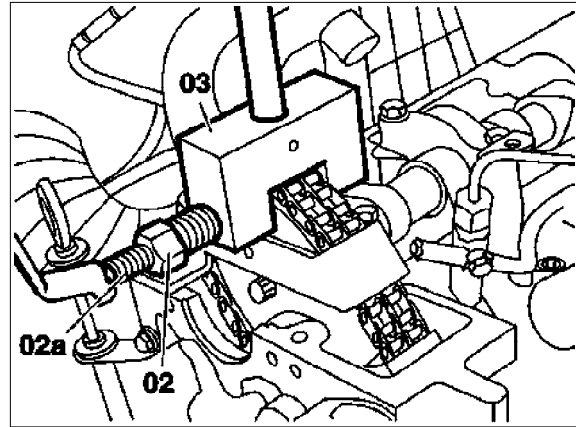
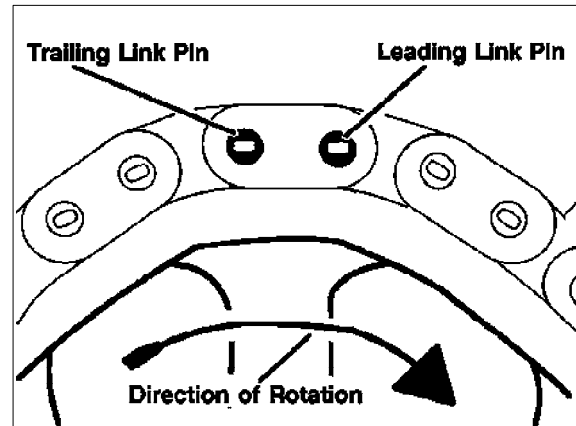

Figure 2
Figure 3
7. Install link remover mandrel (02, Figure 2) Special Tool 602 589 04 63 00 along with link removal pin, Special Tool 602 589 04 63 01 into link removal tool (03, Figure 2) Special Tool 602 589 02 33 00.
8. Lay above assembled link removal tool (03) onto the timing chain (Figure 2) and contact the leading link pin (Figure 3)
9. Using a wrench, turn link remover mandrel (02) in towards the timing chain until contact is made with the timing chain link plate (Figure 2).
10. Continue by turning mandrel (02a) (with link removal pin) (Figure 2) to press out the timing chain leading link pin from the old timing chain (Figure 3).